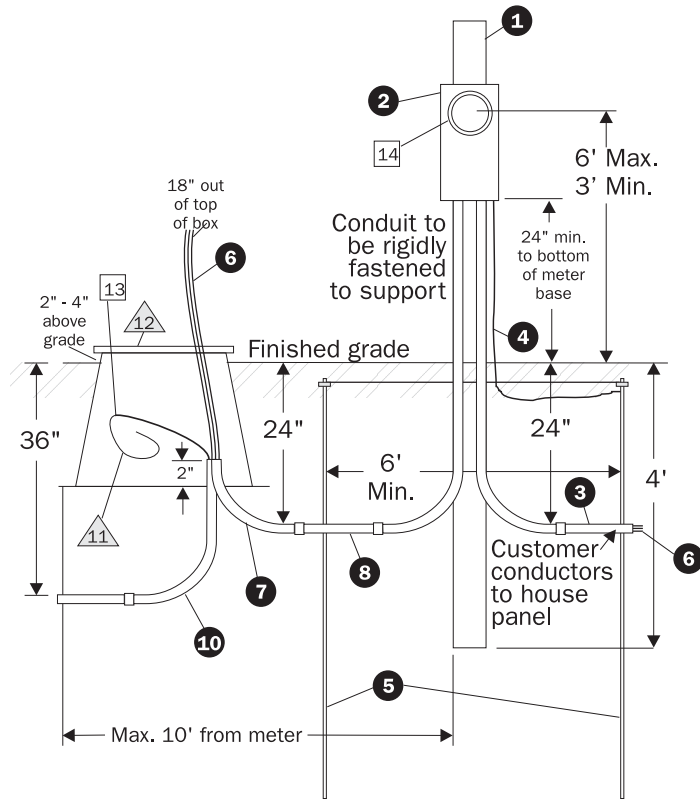

Figure C-6.
Pedestal mounted (see Figures C-6 & C-7)
1. **Custom built**- a pedestal that you or your electrical contractor builds. See Figure C-6.
● **Items owned and installed by customer** (Figs. C-6, C-7)
(Figs. C-6 & C-7)
□ Items owned and installed by Central Lincoln (Figs. C-6 & C-7)